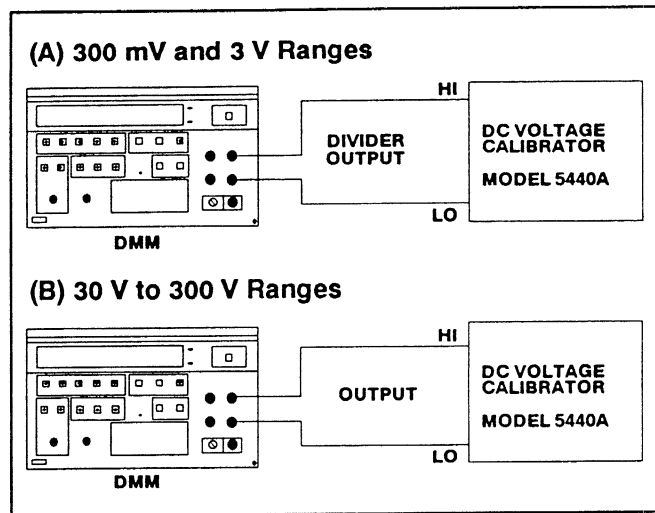

Fig. 3-1. DC Volts Calibration Configuration.
k. Repeat steps d through j for the remaining DCV ranges using Table 3-2 and Fig. 3-1 as a guide.
| 300 mV | Fig. 3-1 (A) | -300.0000 mV 300.0000 mV 000.0000 mV | -0.3000000 V 0.3000000 V 0.0000000 V | DCV;RANGE 1 CAL FIRST,300E-3 CAL SECOND,-300E-3 CAL LAST,0 |
| 3 V | Fig. 3-1 (A) | -3.000000 V 3.000000 V 0.000000 V | -3.000000 V 3.000000 V 0.000000 V | DCV;RANGE 2 CAL FIRST,3 CAL SECOND,-3 CAL LAST,0 |
| 30 V | Fig. 3-1 (B) | -30.00000 V 30.00000 V 00.00000 V | -30.00000 V 30.00000 V 00.00000 V | DCV;RANGE 3 CAL FIRST,30 CAL SECOND,-30 CAL LAST,0 |
| 300 V | Fig. 3-1 (B) | -300.0000 V 300.0000 V 000.0000 V | -300.0000 V 300.0000 V 000.0000 V | DCV;RANGE 4 CAL FIRST,300 CAL SECOND,-300 CAL LAST,0 |